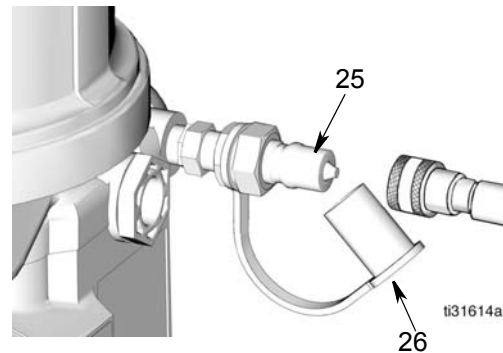

FIG. 20
- Always clean inlet fitting (25) (FIG. 20) with a clean dry cloth prior to filling reservoir. Dirt and/or debris can damage pump and/or lubrication system.
1. Remove dust cap (26) and connect fill hose to inlet fitting (25) (FIG. 20).